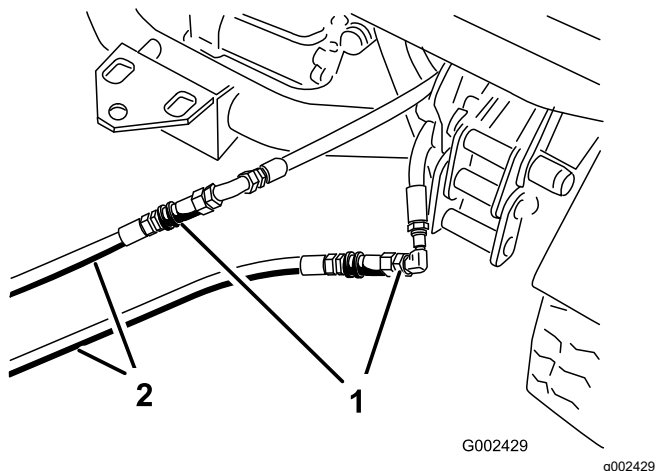

Figure 76
- On the disabled machine, connect the 2 jumper hoses to the hoses that were disconnected (Figure 76).